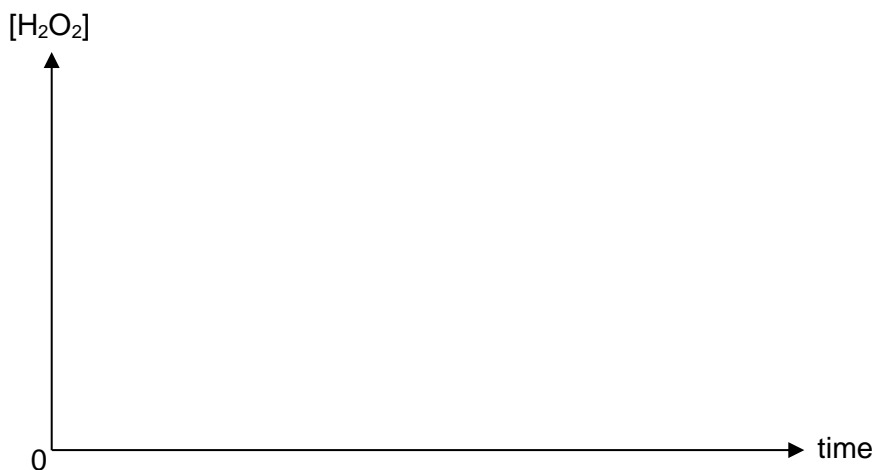

Fig 4.2
- (ii) Hence sketch, on Fig 4.2, a labelled graph to show how the concentration of H_2O_2 in step 2 will vary over time.